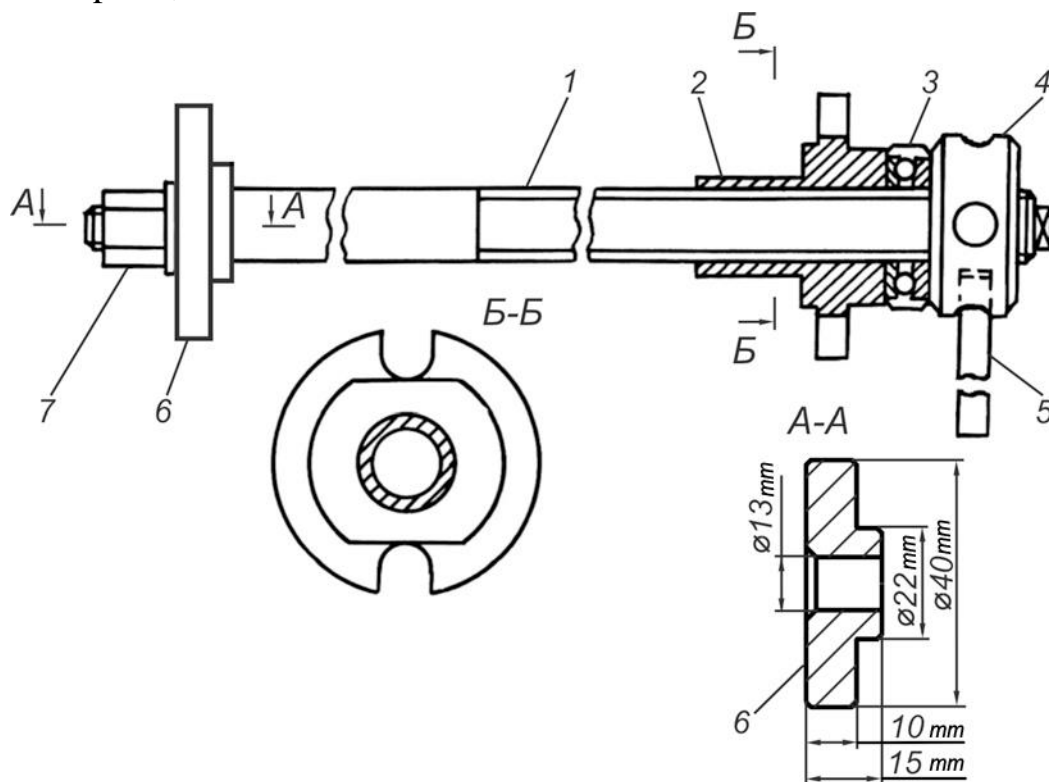

Fig. 4.16. Spring removal and installation tool: 1 - screw; 2 - support ring; 3 - bearing; 4,7 - nuts; 5 - tap wrench; 6 – washer
- disconnect and remove the shock absorbers (see “Front shock absorber removal and installation” subsection) and install in their place spring removal and installation tools (Fig. 4.16) as follows:
- unscrew the tool nut 4 (see Fig. 4.16) and remove the spring with gaskets;